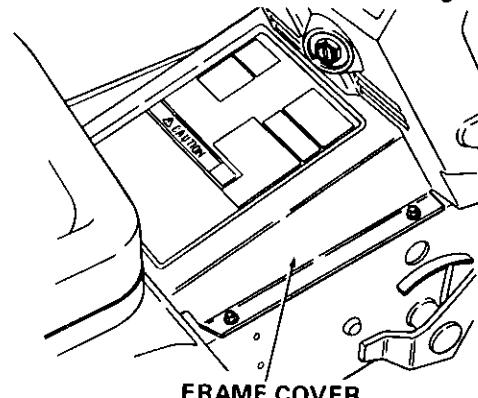

Figure 2
5. Remove the frame cover. Refer to Figure 2.